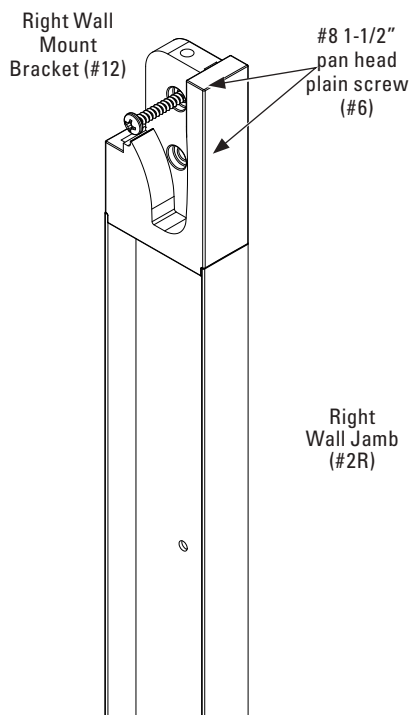

Figure 7
D. Place Right Wall Mount Bracket back on top of Right Wall Jamb and secure with #8 x 1 1/2" PH SMS Screws (See **Figure 7**).